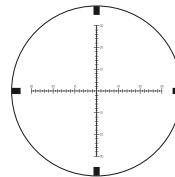
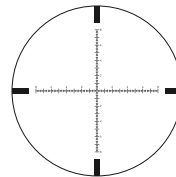

Fig. 3-4
Fig. 3-5
(2) Focusing
- ① Look through the eyepiece with your eye positioned about 4 in. (10 cm) away from the eyepiece to see the FX-MOA reticle (Fig. 3-4) or the FX-MRAD reticle (Fig. 3-5). Be sure your eye is positioned with proper alignment and with proper eye relief, otherwise the view will “black out.”
- ② Point the objective end of the scope at the sky (do NOT point it at the sun) or at a plain unpatterned wall.
- ③ Turn the eyepiece adjustment counter-clockwise and then turn it clockwise until the reticle appears sharp.